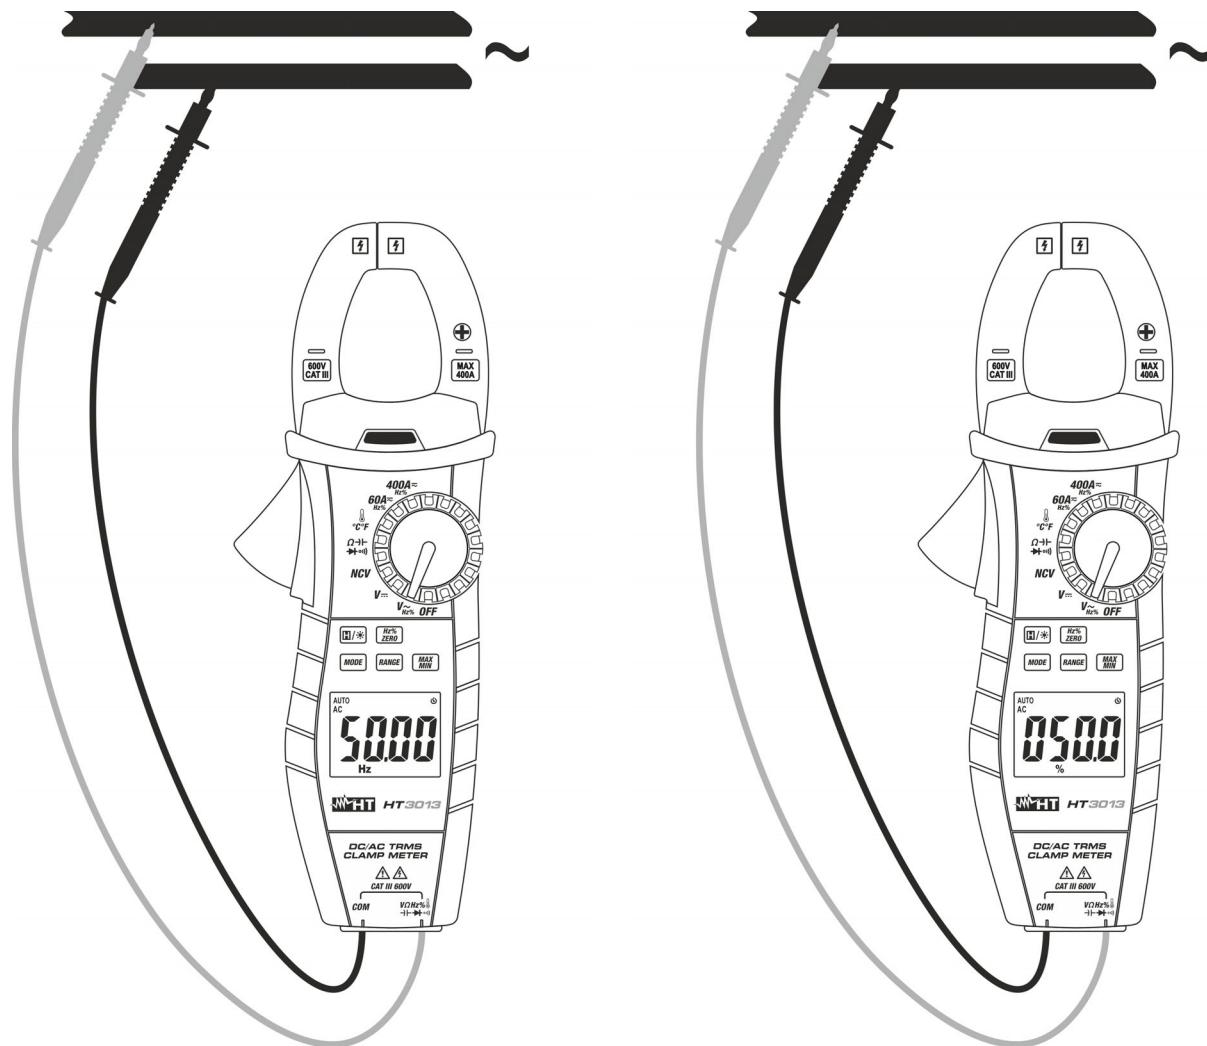

Fig. 6: Use of the instrument for frequency measurement and duty cycle
- Position the test leads in the desired points of the circuit to be measured (see Fig. 6)